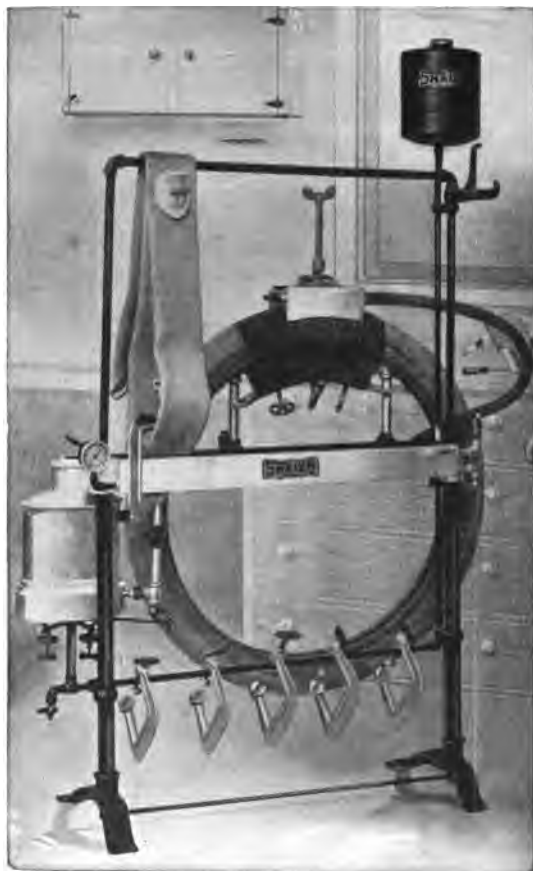
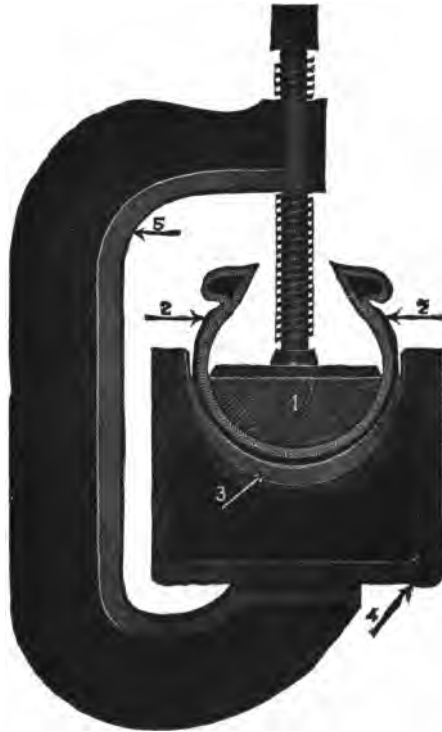

Fig. 105. Small Vulcanizing Outfit for Single Casing or Six Inner Tubes
Fig. 114. Section of Retreading Vulcanizer
For the average small repair man, the outfit shown in Fig. 105 will do very nicely, at least to start with. This will handle a single casing or six tubes, or in a press of work, both simultaneously. This outfit is operated by gasoline, contained in the tank shown above at the right, but the same outfit can be had with pipe arrangements for connecting to a steam main, or for electric heating. In the case of either gasoline or steam, there is an automatic temperature controlling device which is a feature of the Shaler apparatus. As shown, casings are repaired by what is known as the "wrapped tread method", the repair being heated from both inside and outside at once, the outside being wrapped. Tubes are handled on the flat plate shown in the middle of the framework, the size of this  $4\frac{1}{2}$  by 30 inches being sufficient, so the makers say, to handle six tubes at once. When this is used, the tubes are hung over the top pipe of the machine, only the injured portion resting on the plate.
**Retreading Vulcanizers.** Retreading vulcanizers differ from the sectional molds of Figs. 105, 106, and 107 in that the heat is applied at one particular point or, rather, strip along the middle of the top surface of the casing and extending down only as far as the side walls. Such a device, shown in elevation in Fig. 113, and in enlarged sectional detail in Fig. 114, is used solely for retreading or vulcanizing a new tread strip around the tire. The complete unit extends around about one-third of the whole tire surface so that, when putting on a complete new tread the mold must be used three times. The section, Fig. 114, is numbered as follows: Casing, 2; inner mold, 1; new tread to be vulcanized, 3; vulcanizer proper, 4; clamp, 5; and steam space within which the heating is done, 6.